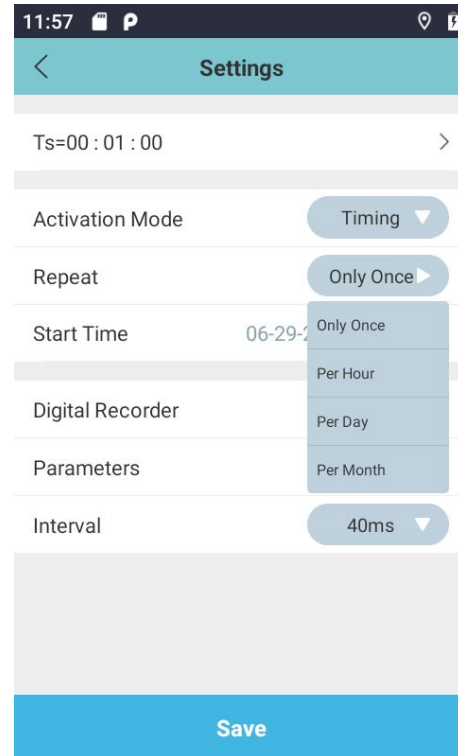

Figure 6.9
- b) **“Per Hour”**: as shown in Figure 6.9, starts at the specified date and time and repeats every hour until the end time.